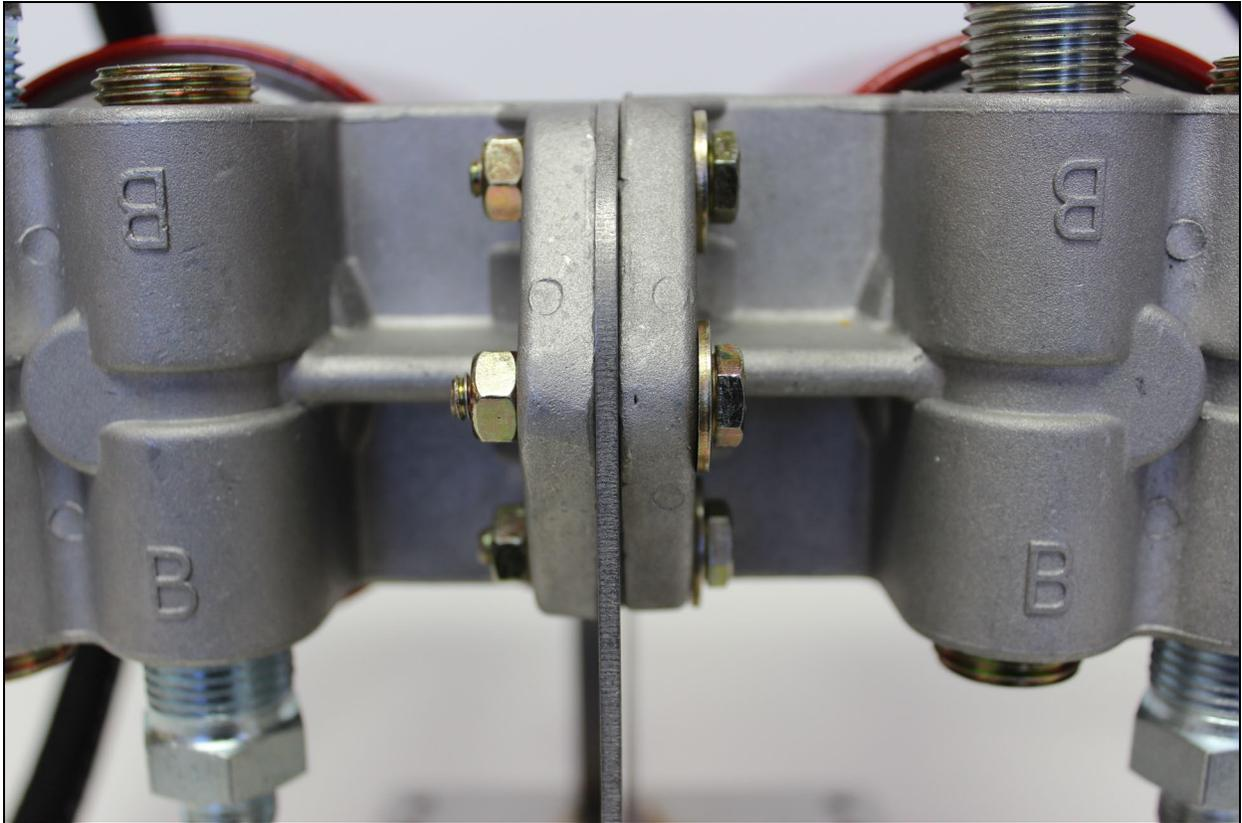

FIGURE 3 – FUEL FILTER MOUNTING
2. Install the (2) KF33 Filter Heads to the bracket using the (3) 1/4-20 x 1 1/4" bolts, (3) Flat Washers and (3) 1/4-20 Nylok Nuts. See FIGURE 3.